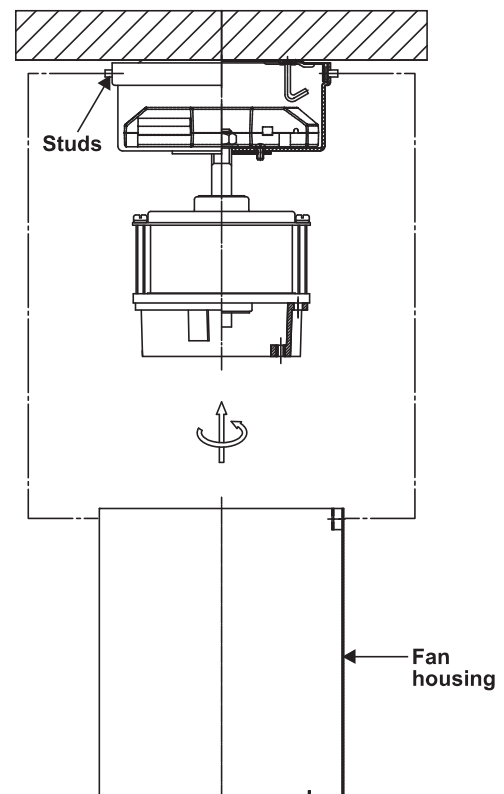

Figure 8
Step 3. Raise the fan housing up against the mounting bracket. The four supports inside the fan housing should be placed against the four studs on the mounting bracket. Twist the fan housing clockwise until snug. (Fig. 8)